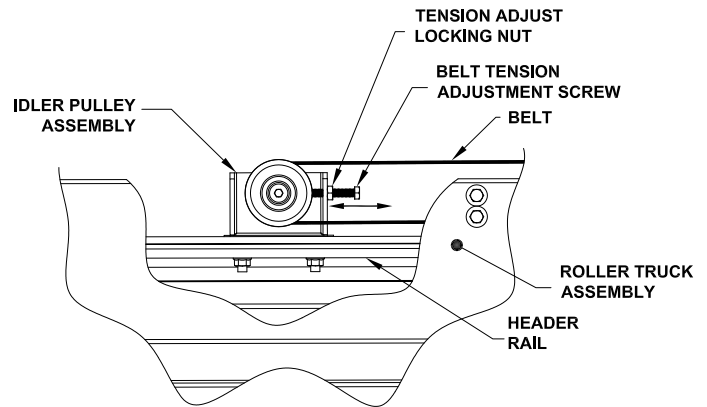

Figure 25: Belt Tension Adjustment
1. Release the tension on the idler sprocket by using procedure above, and decreasing all tension on belt. (Figure 25).